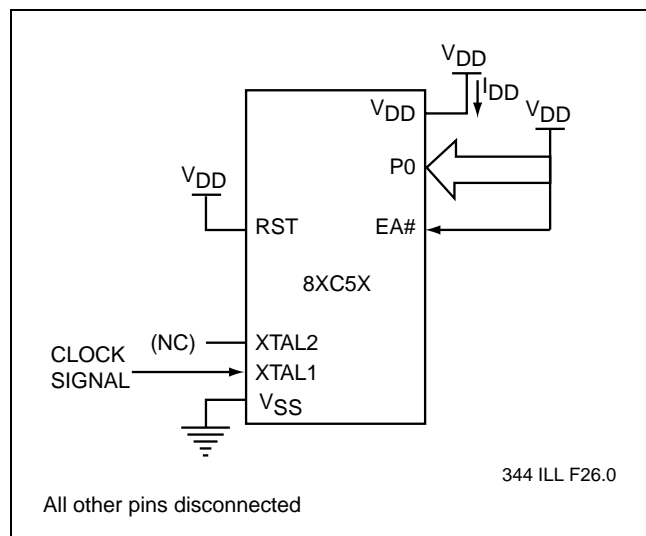

FIGURE 12-9:  $I_{DD}$  TEST CONDITION, ACTIVE MODE
6. See Figures 12-9, 12-10 and 12-11 and for test conditions. Minimum  $V_{DD}$  for Power Down is 2.7V.